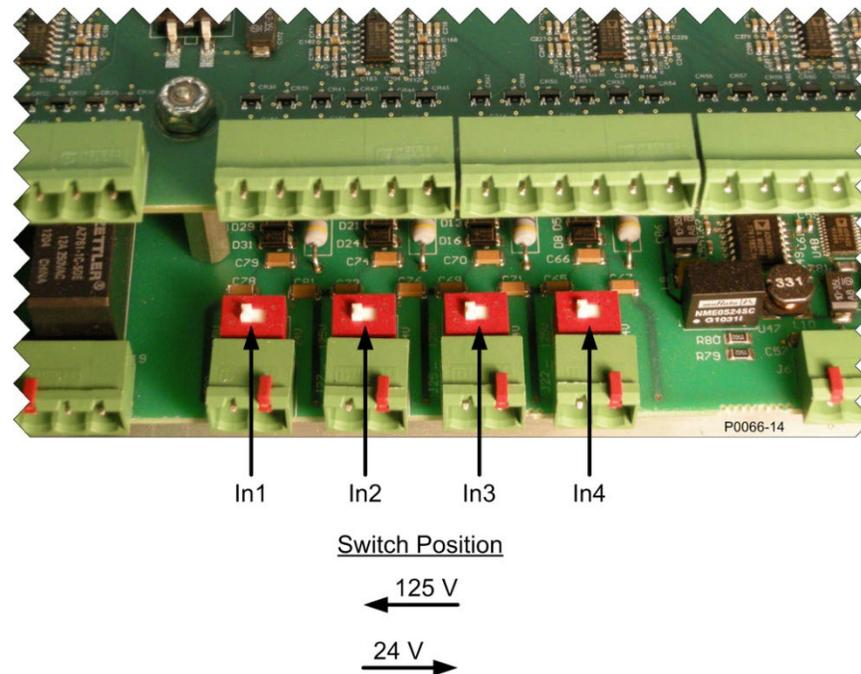

Figure 5-3. Contact Input Switch Locations (Left-Side View of ECM-2 with Cover Off)
3. Locate the contact input switches and set according to your system. See Figure 5-3.